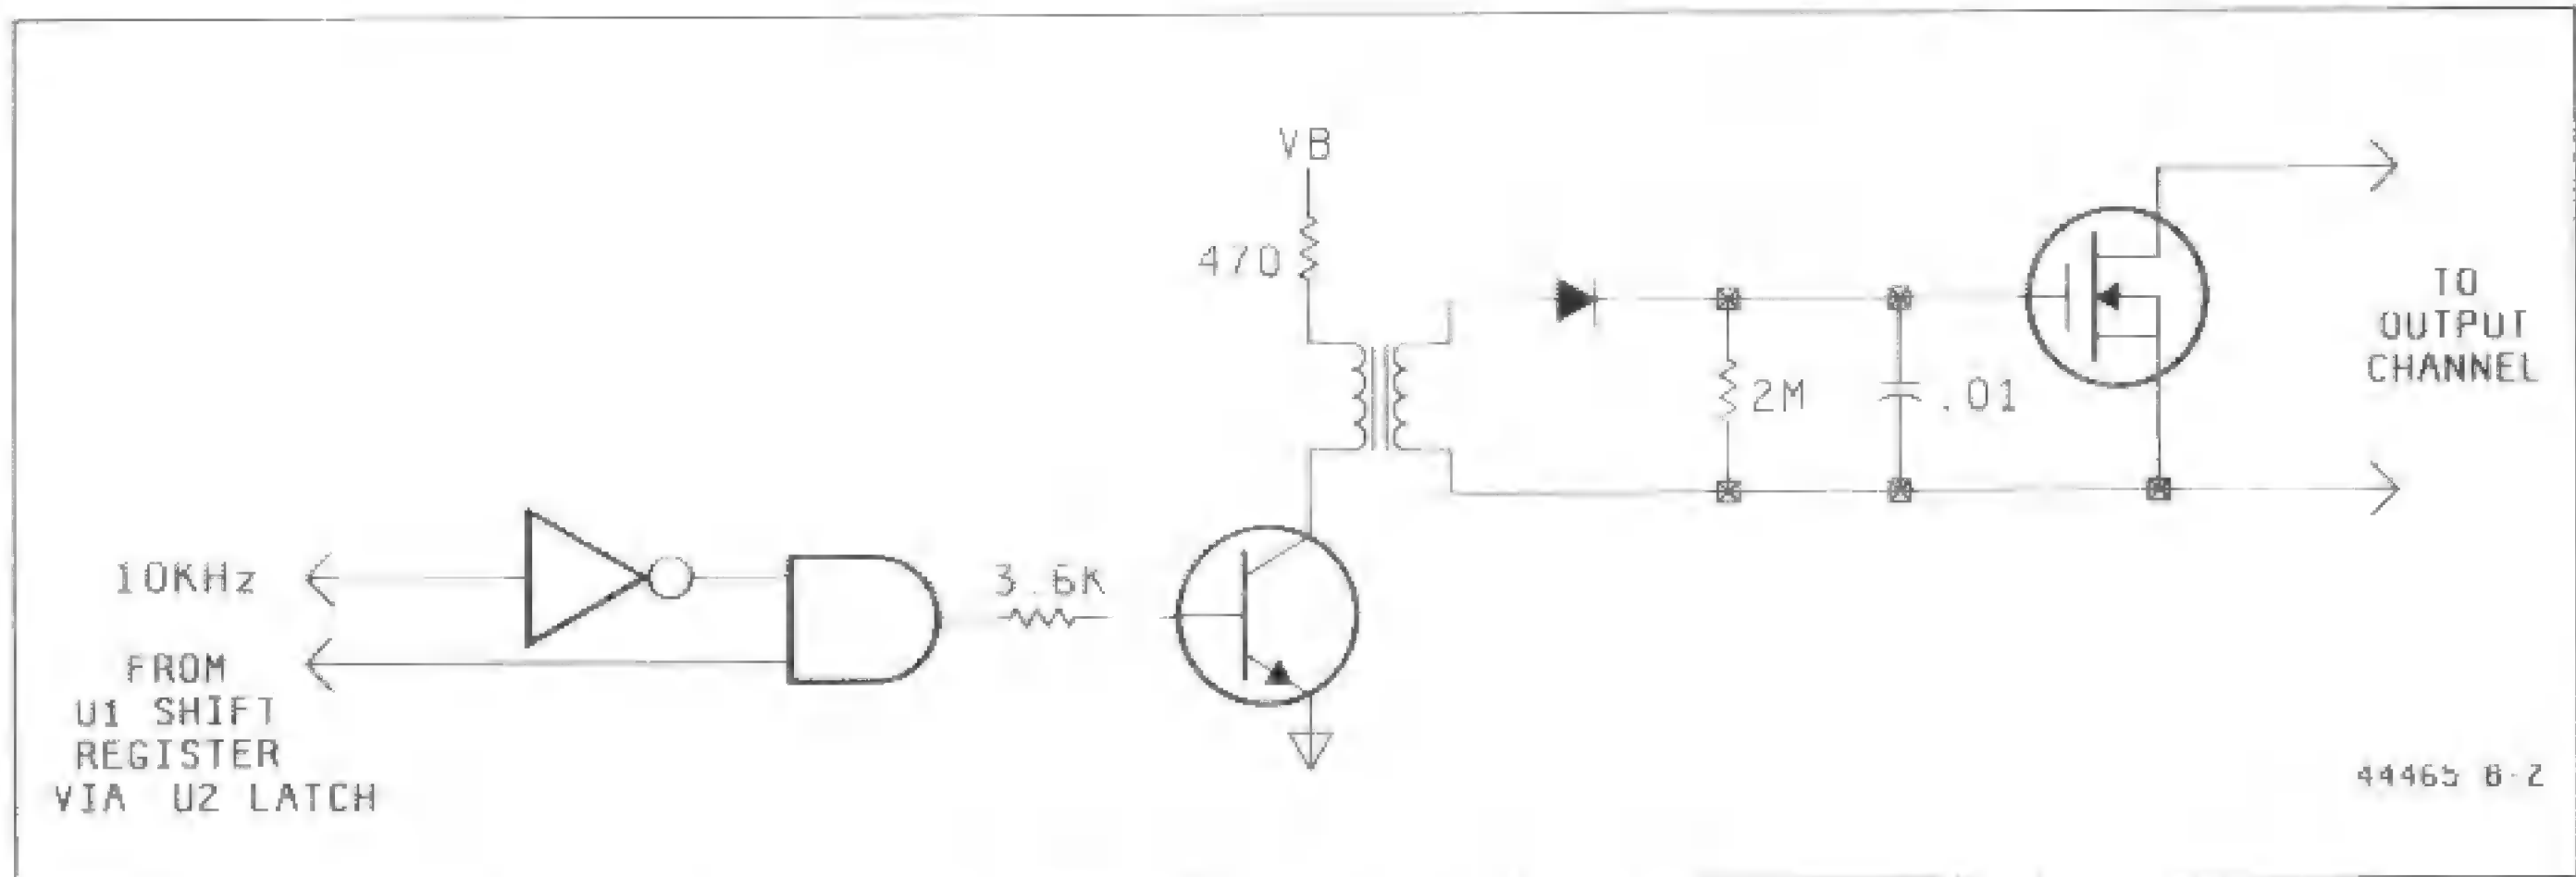

Figure 3-8-2. Schematic of One Digital Output
**3-8-15. Output Bits.** A schematic representation of one digital output is shown in Figure 3-8-2. Refer to this figure and the schematic of Figure 3-8-4 for the following explanation.